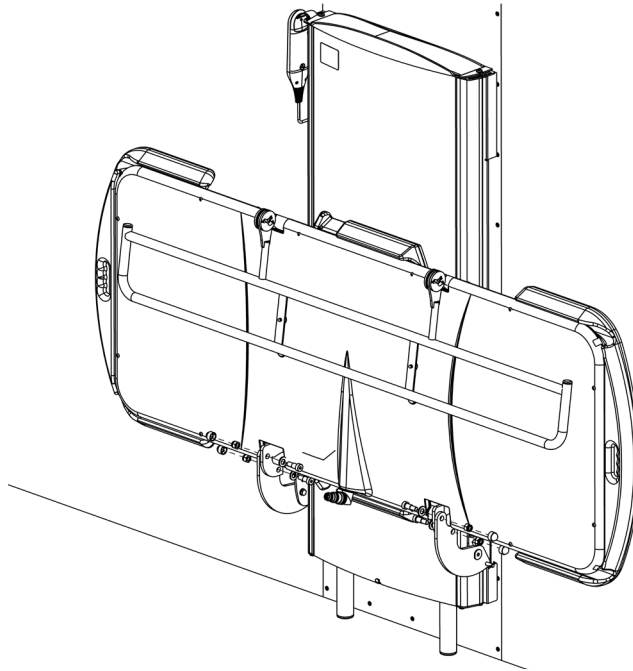

Fig 12.6c
- With two people, lift the stretcher vertically and slot the SBU arms in the middle of each stretcher brackets, see Fig 12.6c.